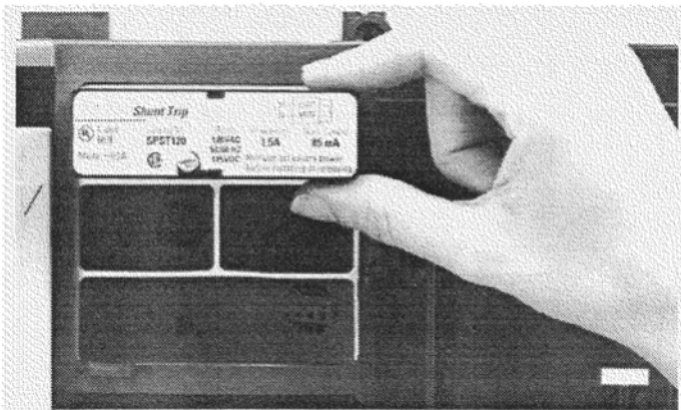

Figure 3. Inserting a Shunt Trip into the accessory compartment.
3. Insert the Shunt Trip accessory into the proper slot, as illustrated in Figure 3. The Shunt Trip accessory is keyed for the correct slot in the accessory compartment. If the accessory cannot be fully seated in the compartment, check that the compartment position is correct.